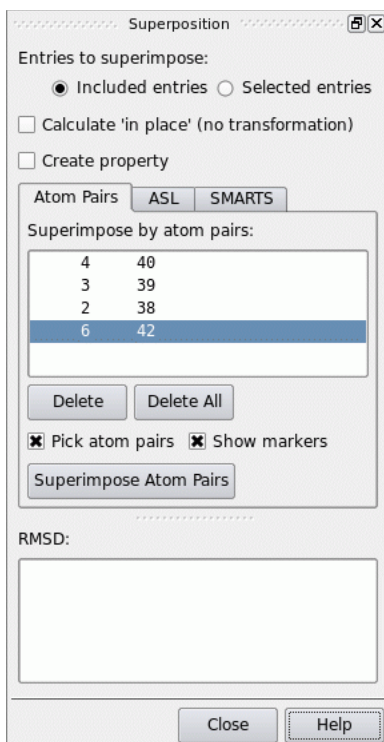

Figure 3.5. The Superposition panel.
8. In the Superimpose by ASL text box, enter the expression `not atom.element H` and press RETURN. (see Figure 3.5).